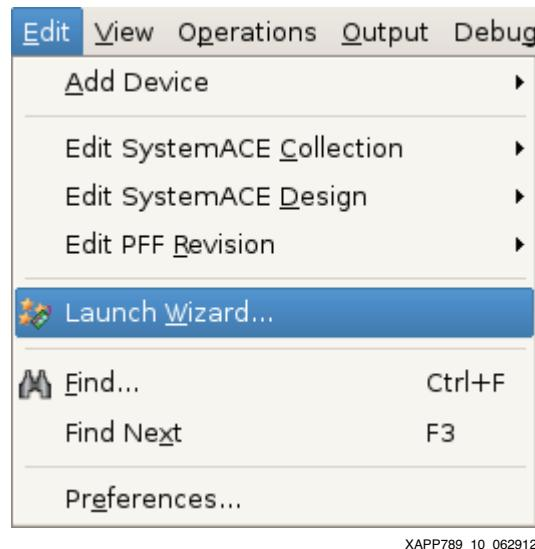

Figure 10: Launching iMPACT Wizard
15. When the iMPACT tool opens, select **Edit > Launch Wizard** (Figure 10).